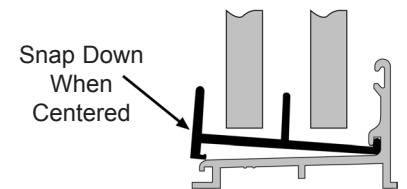

Figure 9C
- D. Press the Guide (#4) onto the Curb (#2) and lock it into position by pressing firmly on the back edge of the Guide (#4) as shown in Figure 9C. You should feel it lock into place. If the Guide (#4) doesn't lock into position easily, it may be necessary to press firmly on one end to start the process and work along the back of the Guide (#4) in order to lock it into place.